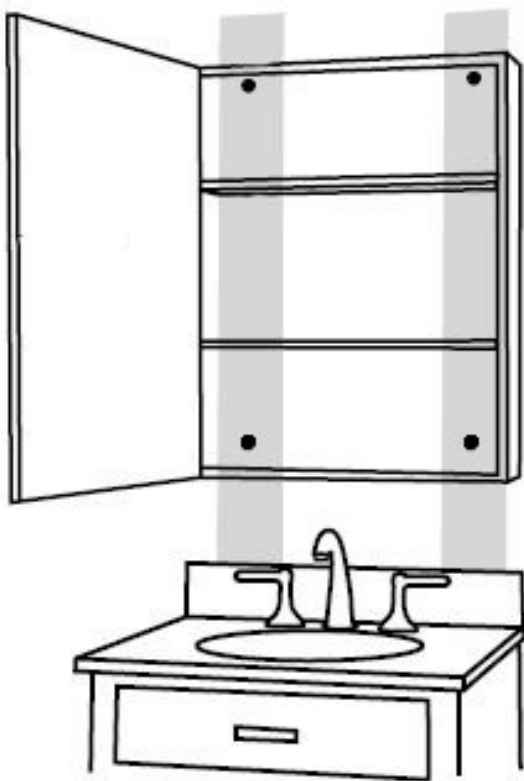

Fig. 3
4. For drywall/wood stud applications insert wood screws into pre-drilled mounting holes located on the interior sides of the cabinet. (Pro-tip do not overtighten with this will wrack the cabinet) use a level to test that the cabinet is plumb. (Figure 3)